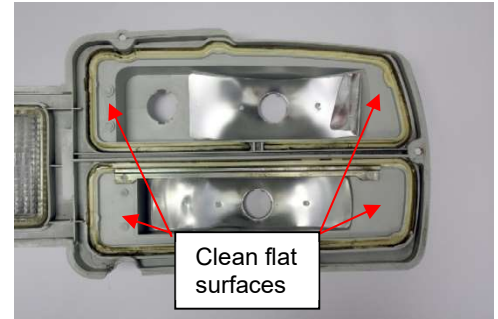

Figure 2
4. Clean the flat surfaces on the inside of the housing. (See Figure 2) Note: These surfaces must be clean and dry to assure the best adhesion of the mounting tape that will hold the LED panels in position.